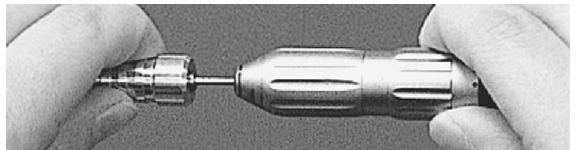

Fig. 2
When a pointed bur is used, use the enclosed ⑧ Bur Push-in Tool. See Fig.2.